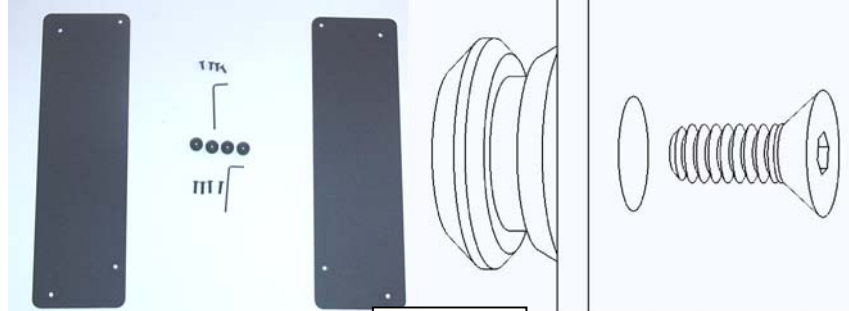

Figure 1
1. Using a 10-24 flat head cap screw inserted from chamfered hole side of bracket, secure mounting button, with chamfered hole of mounting button (larger surface), to bracket (four places). (See Figure 1)